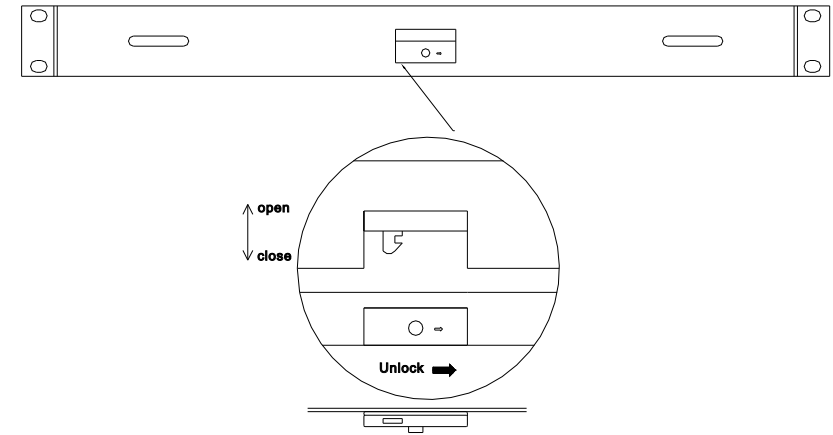

Fig.7
- * Release the front panel locker;(see fig.7)